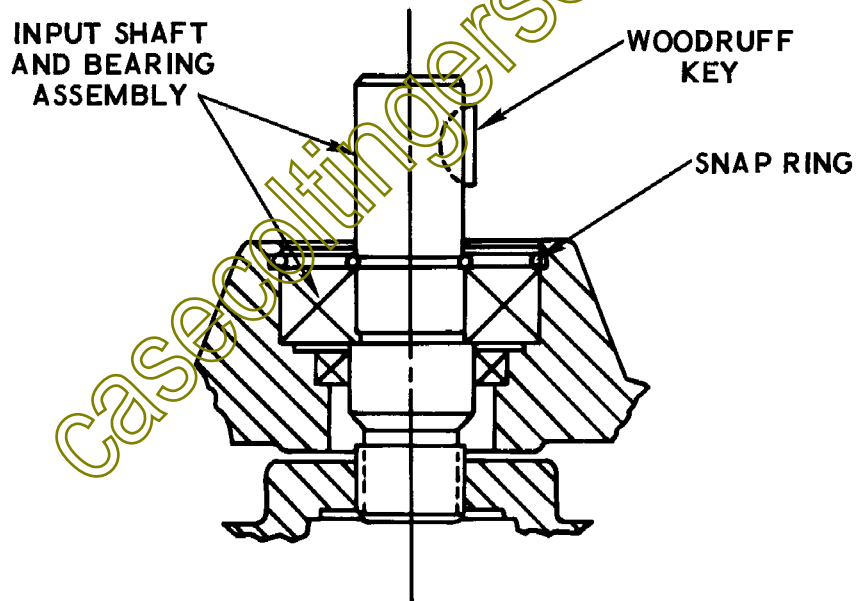

Figure 3. Input Shaft Kit, Part Number C18233
8. Remove the snap ring, Figure 3, with an internal snap ring pliers and carefully lift the input shaft assembly straight upward and out of the housing.